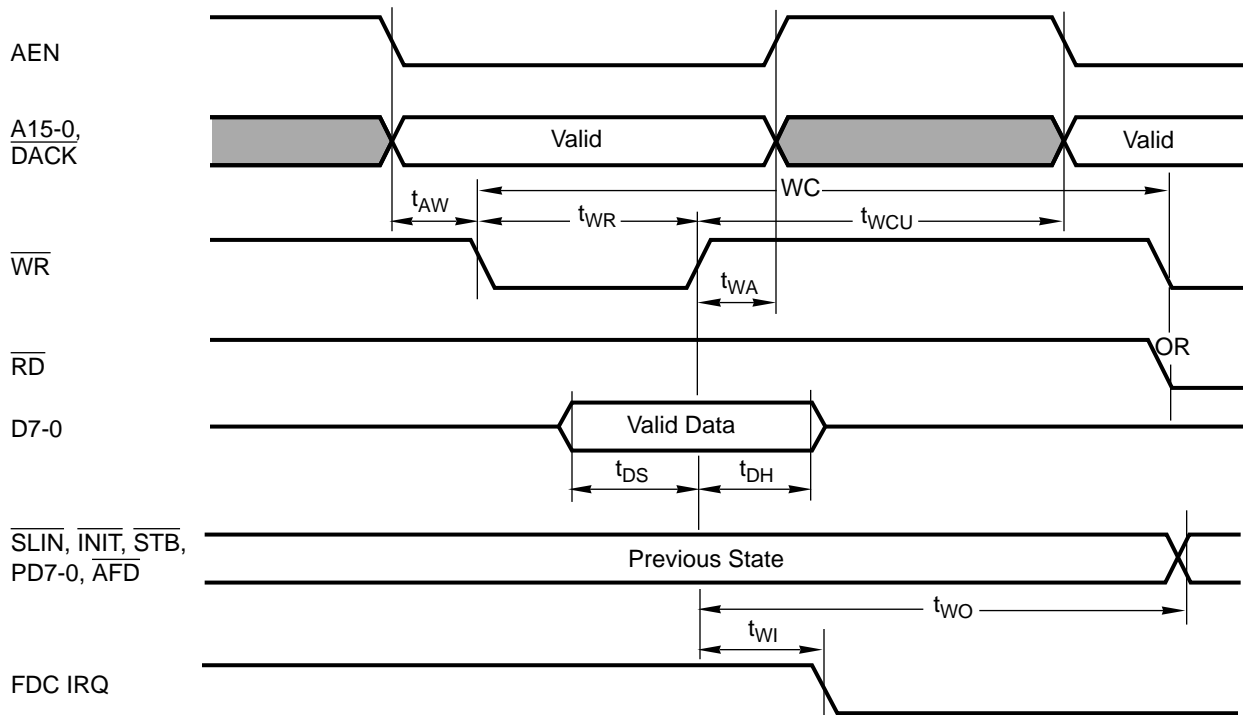

FIGURE 13-4. Microprocessor Write Timing
1. See write cycle timing in Figure 13-4.
1. See write cycle timing, Figure 13-4.